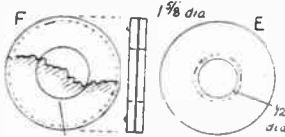

Fig. 3—Details of the eyepiece
For an eyepiece, cut a disc of $\frac{1}{2}$ in. wood to size (E), in Fig. 3. Bore out the central hole accurately and slightly bevel its edge outside. On the inside, glue a disc of cellophane, or clear thin plastic, just a trifle larger than the hole, then glue the eyepiece to the second tube (not that lettered (G)) at the outer end, the (G) end. This tube can now be glued in the holder. The rotating ring should be removed at this stage for fixing tube (G) to it.
An object glass should now be prepared, though perhaps the term 'glass' is rather a misnomer, as no glass is used. For this, cut two discs of the $\frac{1}{2}$ in. fretwood, the same diameter as (E), in Fig. 3, and in their centres bore out $\frac{1}{2}$ in. holes, as at (F). Cut a disc of cellophane a